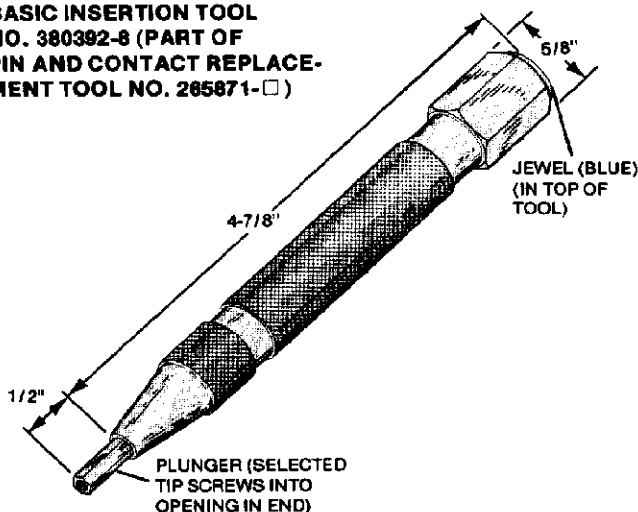

Figure 1
The AMP CERTI-LOK insertion tool (Figure 1) is the basic tool of the AMP Pin and Contact Replacement Tool, Part No. 265871-□. As described in Instruction Sheet IS 2636, the pin and contact replacement tool includes one or more ACTION PIN★ contact replacement tips. This tool, with the selected contact replacement tip screwed into the plunger, is used to remove and replace ACTION PIN contacts in pc boards and panels.
- (a) Obtain specified ACTION PIN contact replacement tip and screw it tightly into end of plunger (Figure 1).
- (c) Pry off the jewel (Figure 1).